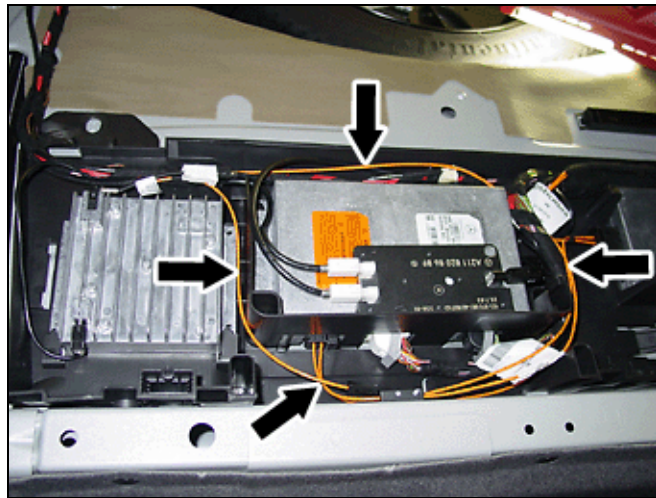

Figure 15
2. Carefully route fiber optic wires as shown (arrows, Figure 15) and secure with cable ties.